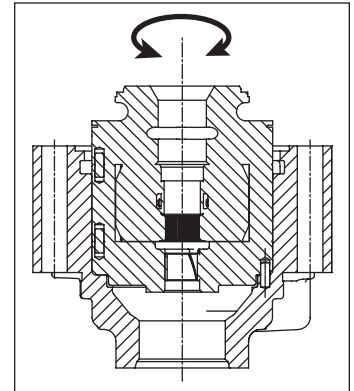

Figure 46
7. Check if the dowel pin is in its position in the housing by trying to rotate the cartridge (Fig. 46).